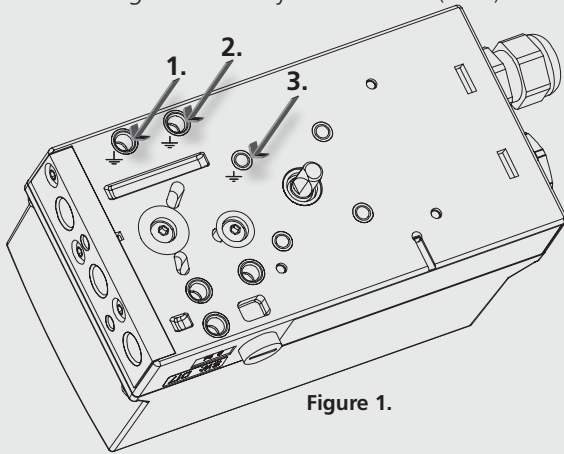

Figure 1.
**Note:** The plastic enclosure is metallized from inside to increase the electromagnetic compatibility (EMC) with respect to high-frequency radiation. The shield is connected to the threaded bush shown in Figure 1 such that it is electrically conductive. This protection is effective only if you connect at least one of the bushes to the grounded control valves through electrically conductive (bare) attachments.